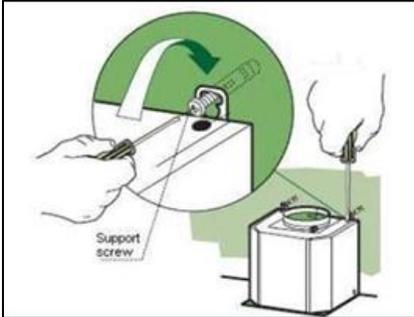

Fig. 9
- Fix the hood body to wall using 2 (two) ST5 x 25 screws provided. Tighten screws firmly. Note: Adjust the hood body alignment if necessary (Fig. 9).
**Aligning the hood body (if necessary)** (Fig. 9)